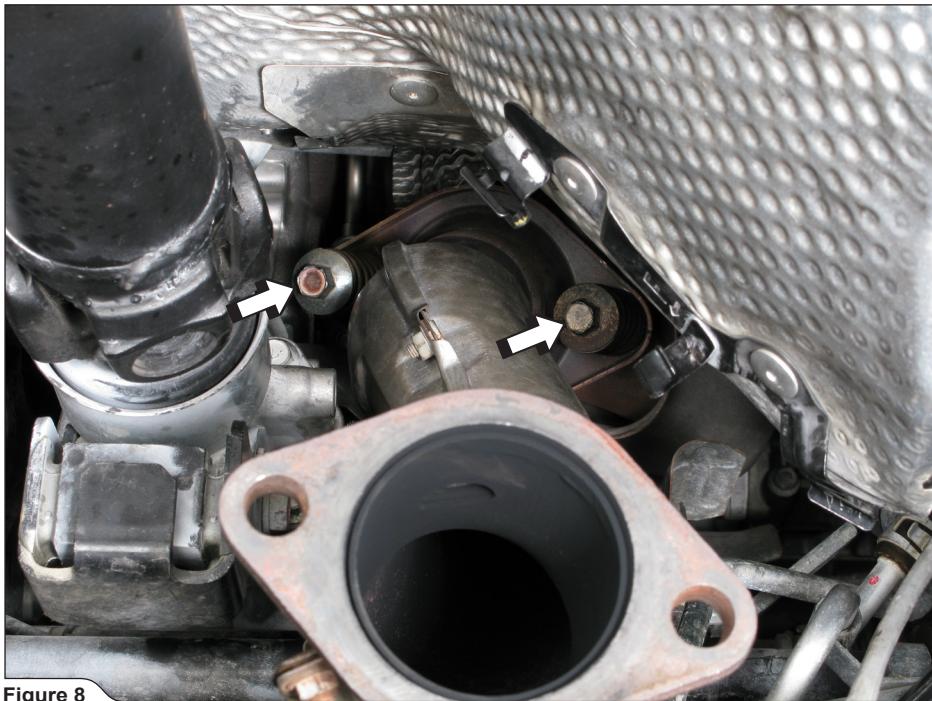

Figure 8
7. **For optional Down Pipe only:** unscrew the marked bolts and remove the stock down pipe off the vehicle (**Figure 8**).